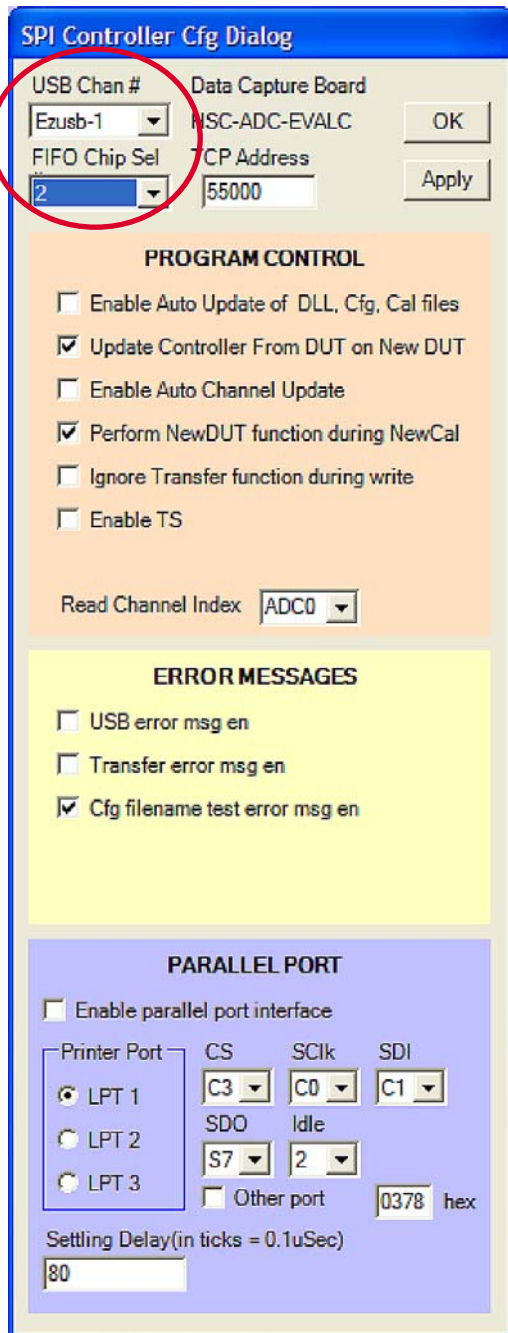

Figure 10.
3. Select **Config** and then **Controller Dialog** and make sure that **FIFO Chip Sel** is set to 2 and that **USB Chan #** is set to the same value as the AD9262 SPIController Cfg dialog (see Figure 10).